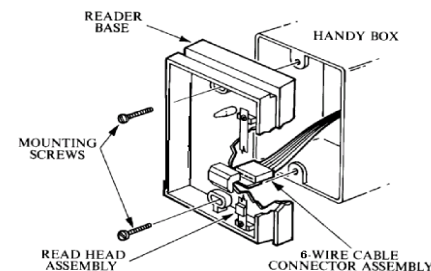

Figure 1
- The reader can be mounted on a standard single-gang handy box, (the preferred method) or on any firm flat surface. The mounting screws should be firmly tightened, but not excessively. Note that the read head assembly screws are purposely loose to allow the head to "float"; no adjustments are necessary. See figure 1.